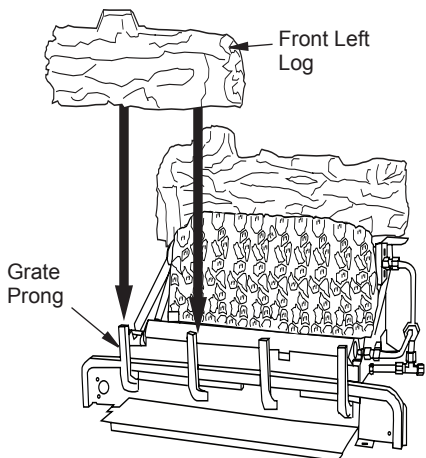

Figure 30 - Installing Front Left Log
- Position front left log against left side of grate prongs (see Figure 30, page 21).